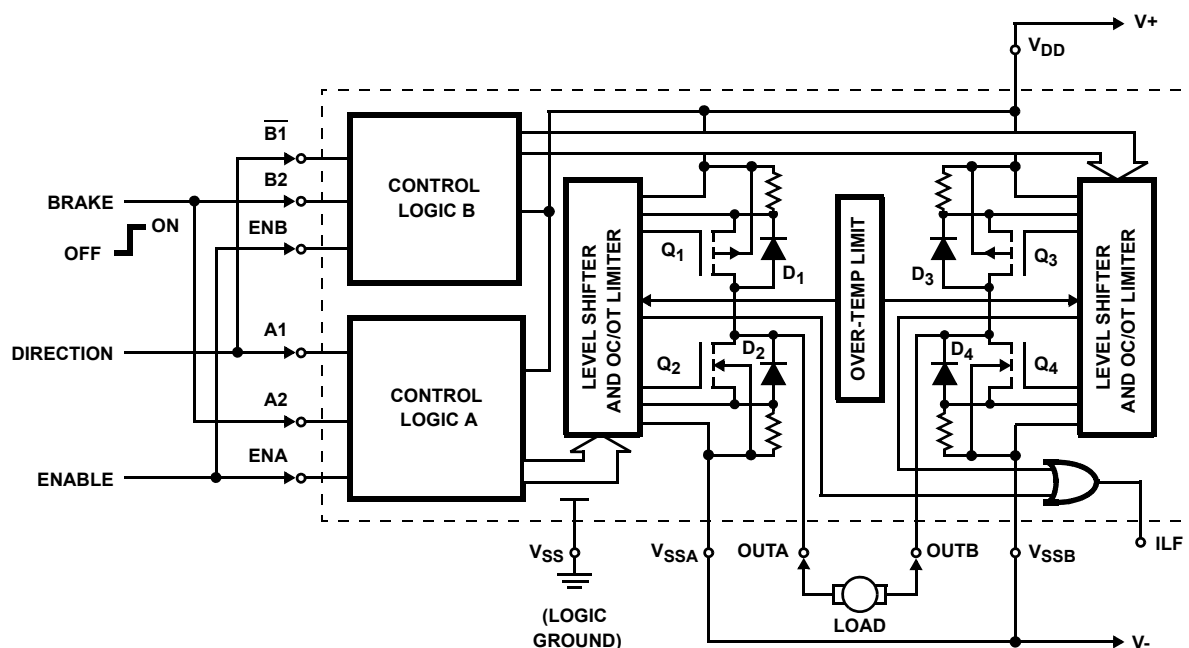

FIGURE 2. TYPICAL MOTOR CONTROL APPLICATION CIRCUIT SHOWING DIRECTIONAL AND BRAKING CONTROL
6. See the Truth Table and the V_{EN} to V_{OUT} Switching Waveforms. Current I_O refers to I_{OUTA} or I_{OUTB} as the output load current. Note that ENA controls OUTA and ENB controls OUTB. Each Half H-switch has independent control from the respective A1, A2, ENA or B1, B2, ENB inputs. See the terminal Information table for external pin connections to establish mode control switching. Figure 2 on page 4 shows a typical application circuit used to control a DC Motor.
The HIP4020 is designed to detect load current feedback from sampling resistors of low value in the source connections of the output drivers to V_{DD} , V_{SSA} and V_{SSB} (see Figure 2). When the sink or source current at OUTA or OUTB exceeds the preset OC (Overcurrent) limiting value of 550mA typical, the current is held at the limiting value. If the Over-Temperature (OT) Shutdown Protection limit is exceeded, temperature sensing BiMOS circuits limit the junction temperature to 150°C typical.
Figure 2 shows the Full H-switch in a small motor-drive application. The left (A) and right (B) H-switch's are controlled from the A and B inputs using the A and B control logic to the MOS output transistors Q_1 , Q_2 , Q_3 , and Q_4 . The circuit is intended to safely start, stop, and control rotational direction for a motor requiring no more than 0.5A of supply current. The stop function includes a dynamic braking feature.